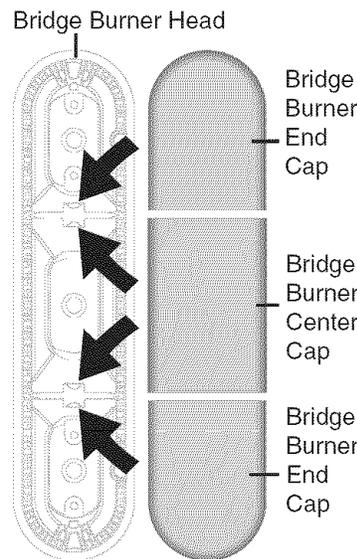

Figure 3
5. Replace Bridge Burner Caps. These include one Bridge Burner Center Cap (rectangular shaped) and the two Bridge Burner End Caps (The Bridge Burner End Caps will fit either the front or rear Bridge Burner Head locations). Make sure that the tabs located under the Bridge Burner Caps fall into the slots located in the Bridge Burner Head (See arrows in Figure 3) and that all the Bridge Burner Caps lie flat and evenly on the Bridge Burner Head.
5. Visually check that both the left rear and left center Burners are lit. Adjust the flame size by turning the control knob between the **second HI and LO settings** (See Figure 3).
4. Visually check that the left-rear burner has lit. Adjust the flame size by turning the control knob between the **first HI and LO settings** (See Figure 3). **DO NOT** cook with the surface control knob in the LITE position (The electronic ignitor will continue to spark if the knob is left in the LITE position).